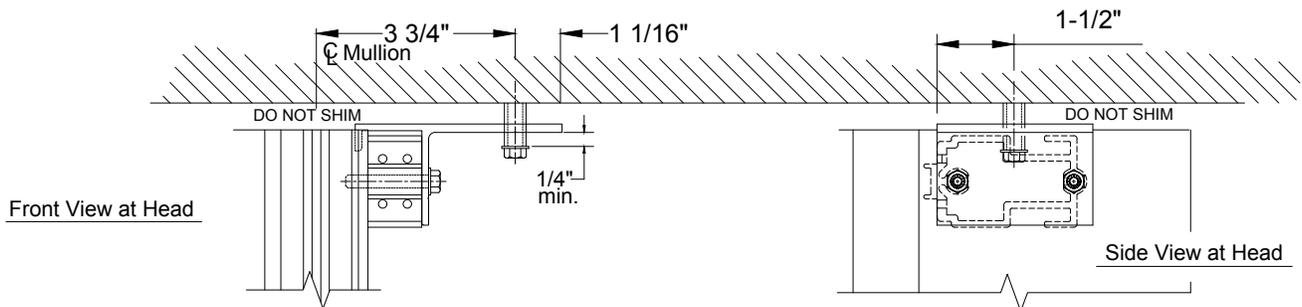

Figure 6
- 2.1.1 Attach shear blocks to all vertical members. The shear block anchors are designed for use with standard shear blocks. See FIGURE 6 & 7, page 10. for proper orientation and installation onto mullion. Tee anchors may also be used for single span installations. Refer to TWIN SPAN INSTALLATION.
NOTE: If roll-over horizontals are used, all vertical mullions can be installed first. If tubular horizontals are used, the wall must be stick erected. Last bay tubular horizontals must be notched. See FIGURE 6. Option: Use roll over horizontals at last bay to avoid notch.